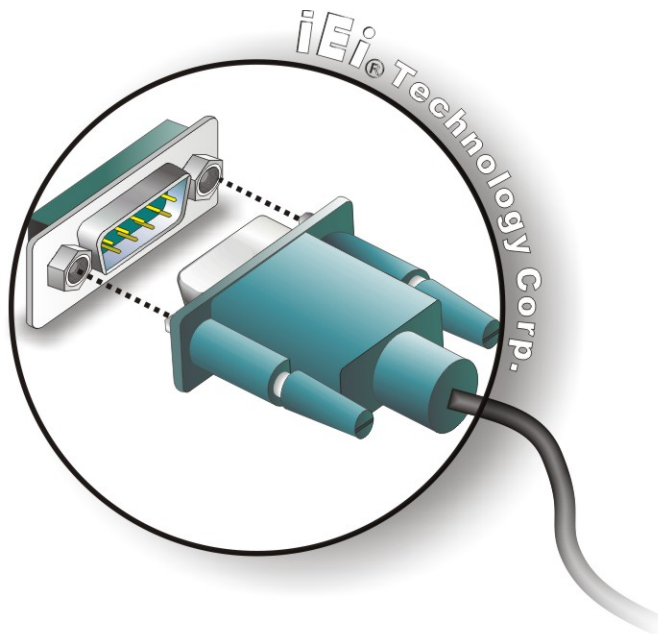

Figure 5-18: Serial Device Connector
Step 2: Insert the serial connector. Insert the DB-9 connector of a serial device into the DB-9 connector on the external peripheral interface. See Figure 5-18.